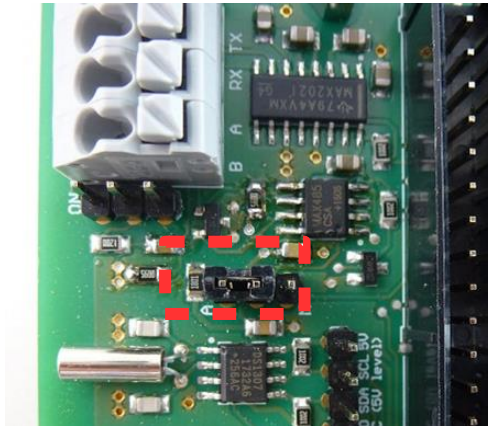

Figure 84: Jumper for send/receive switching of the RS485 interface
- Jumper in position “A” (default setting - figure 84)
- Jumper in position “M” (figure 84)